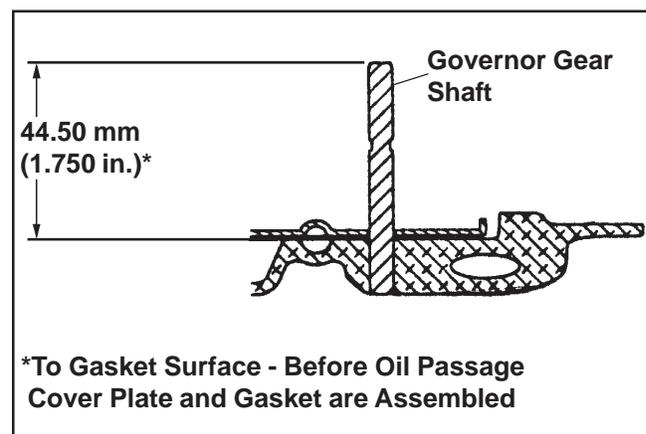

Figure 9-16. Governor Shaft Press Depth.
1. Install new pin by pressing or lightly tapping it into the closure plate. It must be installed so that it protrudes **44.50 mm (1.750 in.)**, plus or minus **0.101 mm (0.004 in.)** above the crankcase boss. See Figure 9-16.